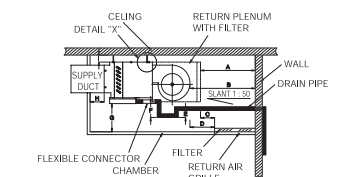
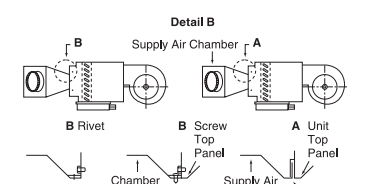

Figure 3 (SIDE VIEW)
Figure 6
- Hang the unit on a solid and level roof. Noise, vibration or leakage could occur on an unstable foundation (Figure 3, 4). For correct installation of duct work see (Figure 6).